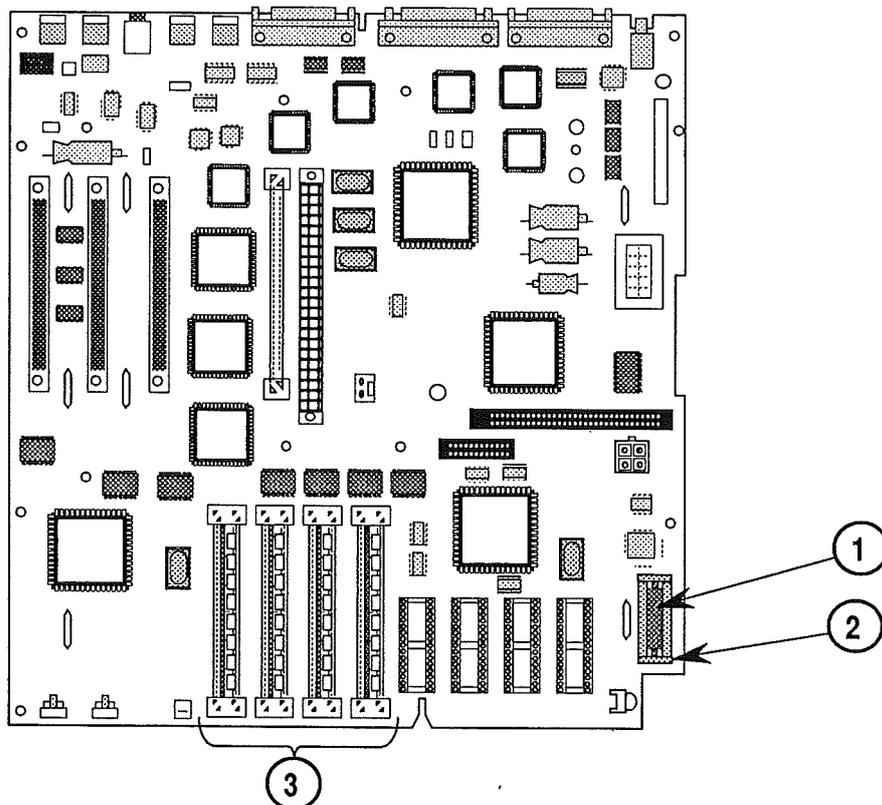

FIGURE 2
□ **MACINTOSH IIci—LOGIC BOARD (Figure 2)**